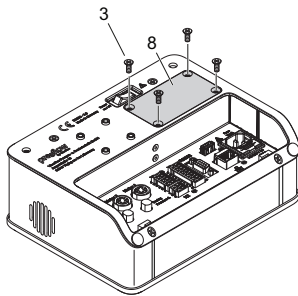

Fig. 175: without support
- ▶ Unscrew the four M4x10 screws (3) and remove the cover plate (8) (Fig. 175).
- ▶ Install the pneumatic unit (9) and secure it by the four M4x10 screws (2) (Fig. 175).